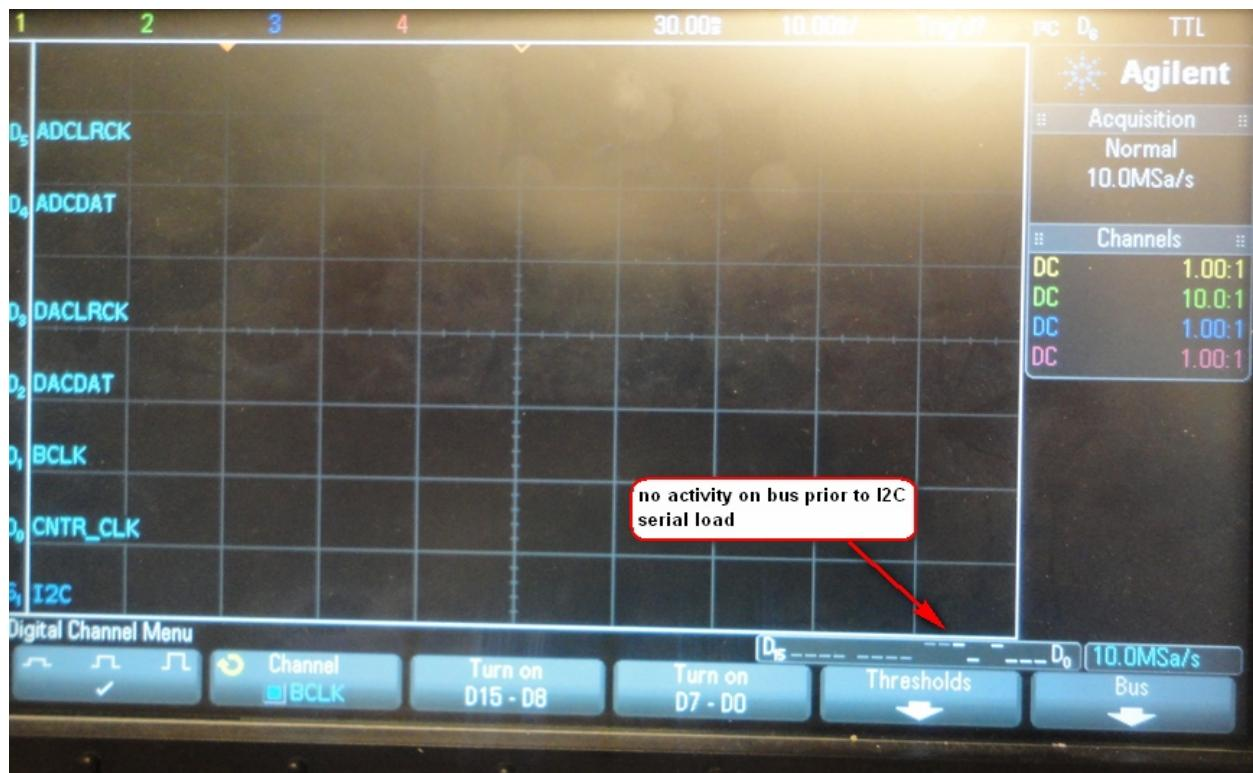

Figure 100 - No signal activity prior to the trigger event
- **Note** that none of the digital channels are active. See **Figure 100**.